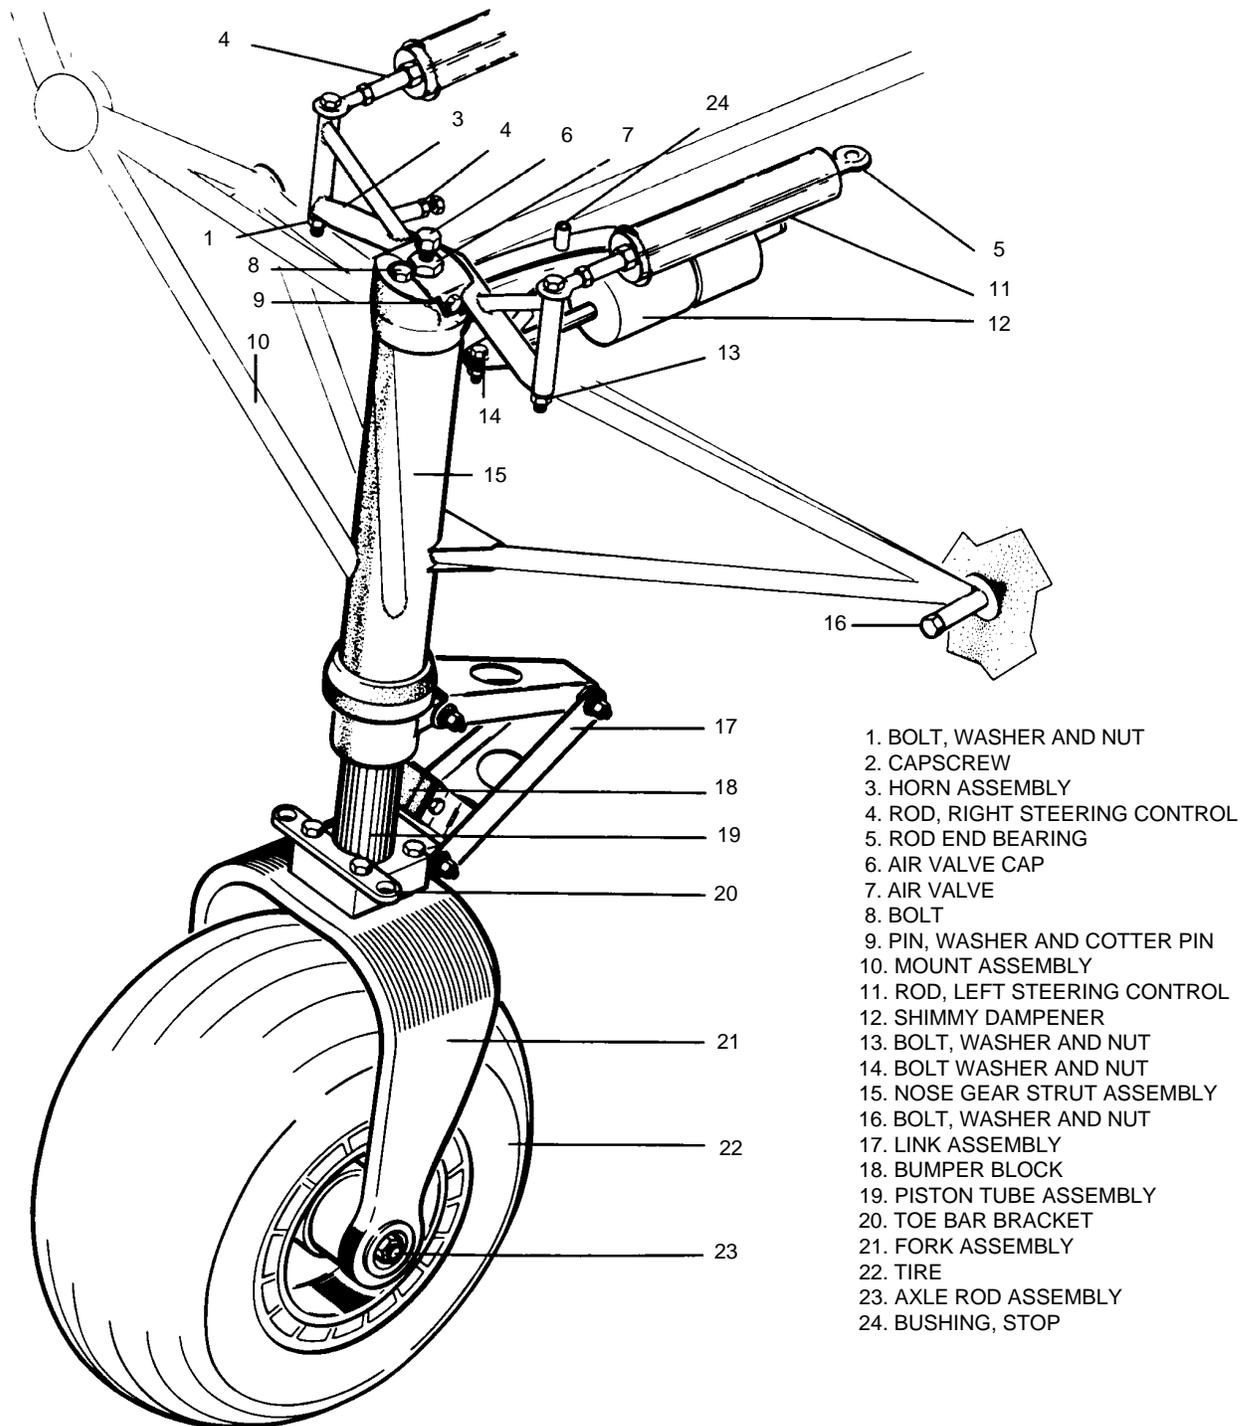

Figure 7-2 Nose Gear Installation
7-10. REMOVAL OF NOSE LANDING GEAR. (Refer to Figure 7-2.)
- e. Disconnect the two rod steering assemblies (4 and 11) at the steering horn assembly (3) by removing the cotter pins, nuts and washers and bolts.
- g. Remove the nose gear and engine mount by removing the five bolts (16) which attach the mount to the firewall.
**7-12. INSTALLATION OF NOSE LANDING GEAR. (Refer to Figure 7-2.)**
- b. Attach the two rod steering assemblies (4 and 11) to the nose gear steering horn (3) with bolts, washers and nuts (1).
- c. If removed, connect the shimmy dampener (12) to the steering horn with bolts, washers and nuts (14). A spacer bushing and cotter pin are required at the body attachment point.